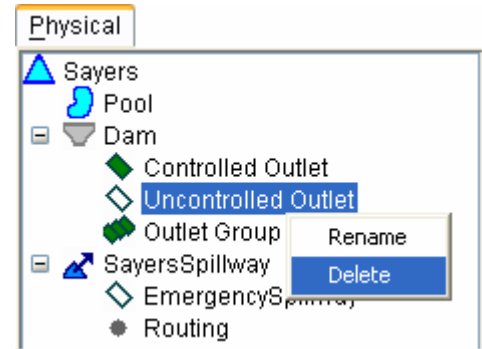

Figure 10.24 Reservoir Component Shortcut Menu: Delete Component
2. Using either the right-click shortcut menu (Figure 10.24) or the component menu in the Reservoir Editor's menu bar, choose **Delete**.